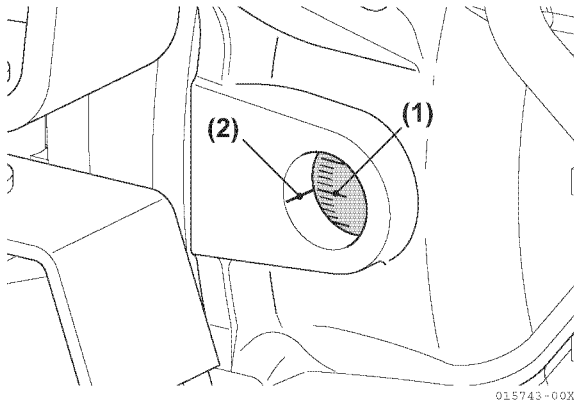

Figure 6-87
9. Highlight the target timing mark (**Figure 6-87, (1)**) on the flywheel as calculated in *Determining the Fuel Injection Timing Specification* on page 6-58. (FIT18°)
12. Check the position of the previously determined flywheel target timing mark (**Figure 6-87, (1)**) in relation to the timing reference mark (**Figure 6-87, (2)**) on the flywheel housing. If the two marks are aligned, the fuel injection timing is correct. If the marks do not align, the fuel injection timing must be adjusted. See *Adjusting Fuel Injection Timing* on page 6-62.